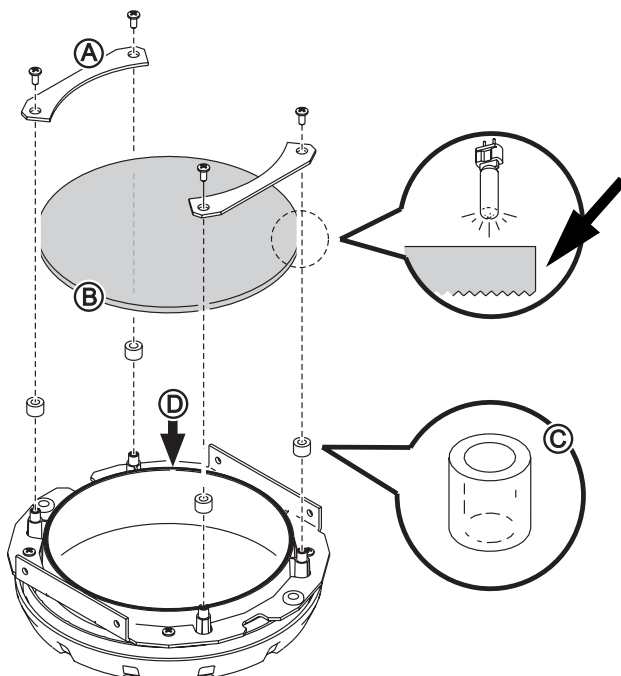
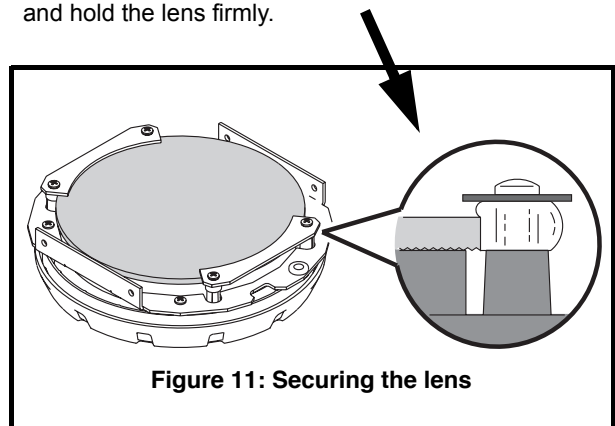

Figure 10: Lens retaining assembly
Figure 11: Securing the lens
4. See Figure 10. Place the front lens assembly face down on a work surface. Remove the 4 screws from the lens clamps, then remove the clamps (A), the standard lens (B) and the 4 silicone tubes (C) from the lensholder ring (D).
Note that the smooth side of the lens must face towards the lamp, as shown in Figure 10. Make sure that the lens is centered and sits flat on the lensholder ring (D). Tighten screws enough to compress the silicone tubes and hold the lens firmly, as shown in Figure 11.